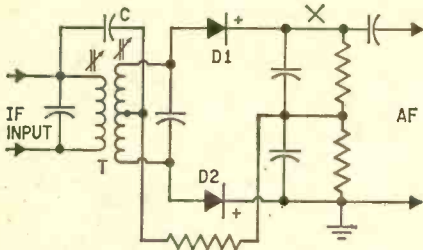

Fig. 26. Foster-Seeley discriminator was very popular in the early days of TV. Now it is seldom used—only a very few hi-fi FM tuners use this circuit at all.
Discriminator. The Foster-Seeley circuit is a much more sophisticated FM detector. As Fig. 26 shows, the signal from the preceding IF stage (limiter) is fed inductively into the secondary of T and through a capacitor (C) to the center tap of the second-